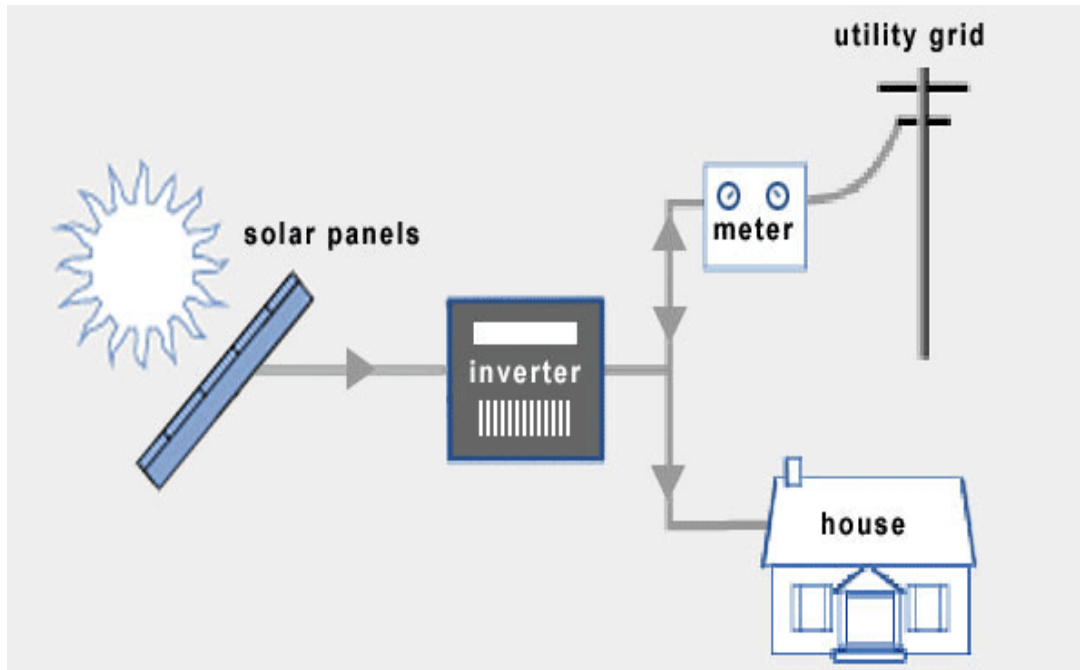
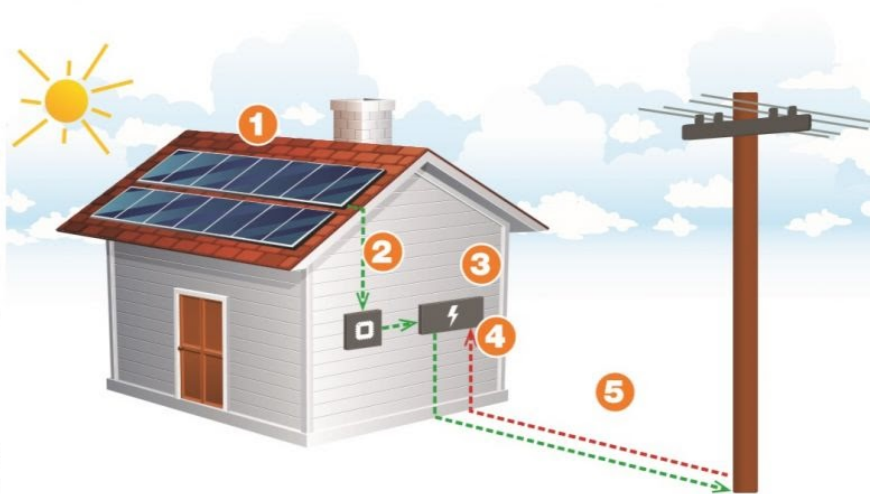

Figure 6: Solar Array Diagram
Figure 7: Solar Power System Graphic.
Solar energy can be unpredictable on cloudy days, so the array will be connected into the utility grid. A grid tie system can be seen in figure 6 where electricity is first generated by one or several solar modules (also known as photovoltaic or PV solar panels). The panels have a shutoff switch, known as a disconnect, so they can be disconnected from the main grid if the panels need maintenance or repair. Next, the solar inverter turns the direct current (DC) from the panels into alternating current (AC) for the household. From the inverter, power moves to the breaker box and is distributed to the necessary power outlets. A power meter at the end of the line will measure the amount of electricity that is either needed from or being sold back to the utility company. The dual system of solar and grid connection will ensure consistent power, independent of available sunlight. The generated electricity can also be sold back to the grid, potentially creating a passive stream of revenue for the Culture Campus. This process is depicted in figure 7 to provide better visual context.